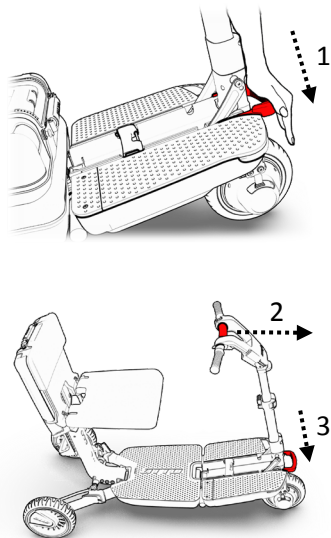

Figure 12
9. Lock the rod in upright position by pushing the front lever down until it clicks and locks in place (1) (see Figure 12). In case the front lever requires too much force to operate, you should apply horizontal pressure on the main handle towards the front of the ATTO (2). This will release the pressure on the front lever and will make it easier to lock (3).